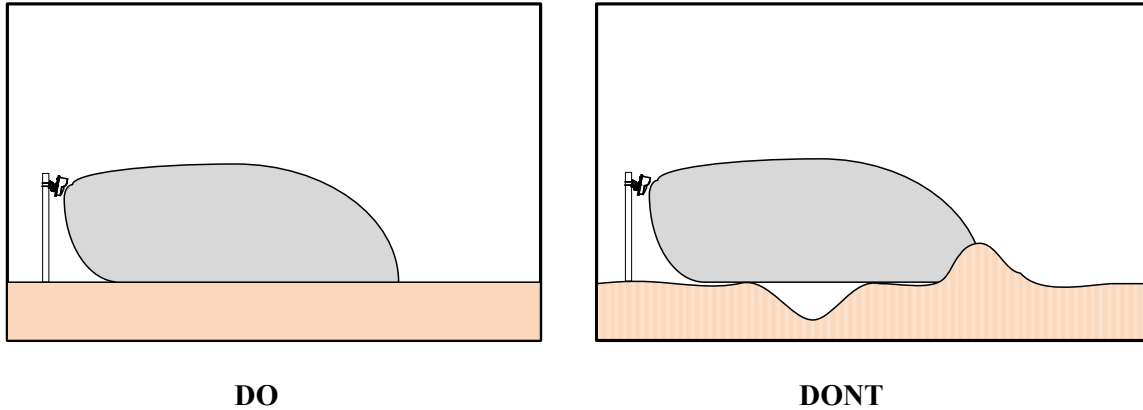

Figure 4.2 – Terrain
The ground must be flat across the protected area. Any bumps, hills or ditches in the area will shadow the beam and may provide crawl space for an intruder. Bumps or hills must be leveled, and ditches filled so that the area is flat to within six (6) inches (152mm) Figure 4.2.